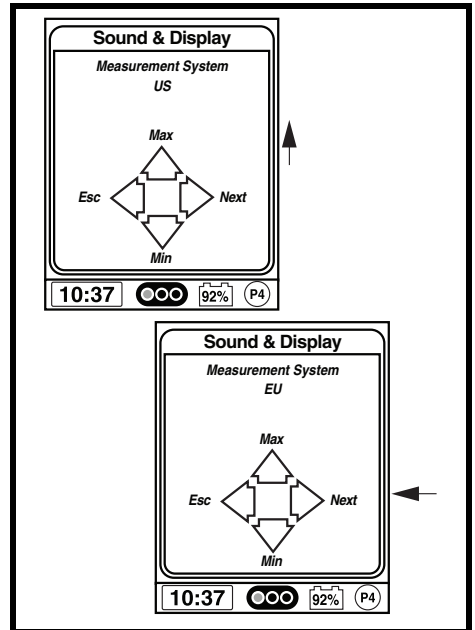

Figure 12. Measurement System Screen
6. Use the joystick to highlight the Max option, then push the joystick right to select that function. **See figure 12.**
7. Push the joystick left to select the ESC option and return to the Sound & Display menu. **See figure 12.**